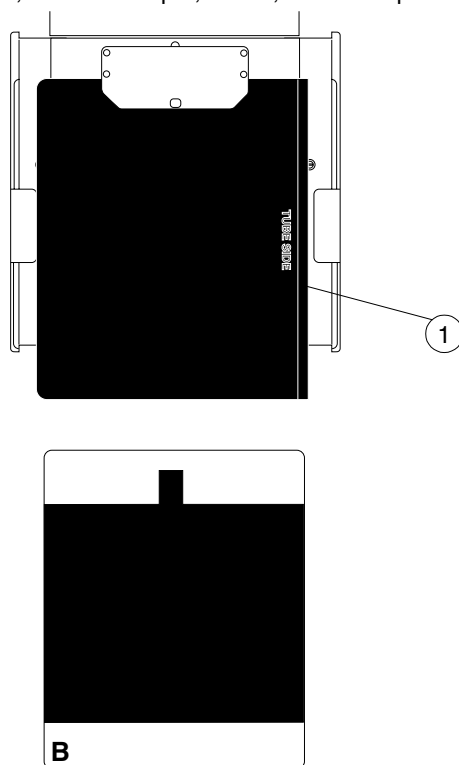

Figure F.5
- e) Place a loaded large cassette crosswise on the cassette table (Fig. F.5, 1).
- e) Place a loaded small cassette crosswise on the cassette table (Fig. F.5, 1).